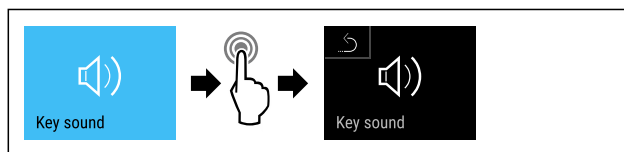

Fig. 95
- ▶ Complete steps (see Fig. 95) .